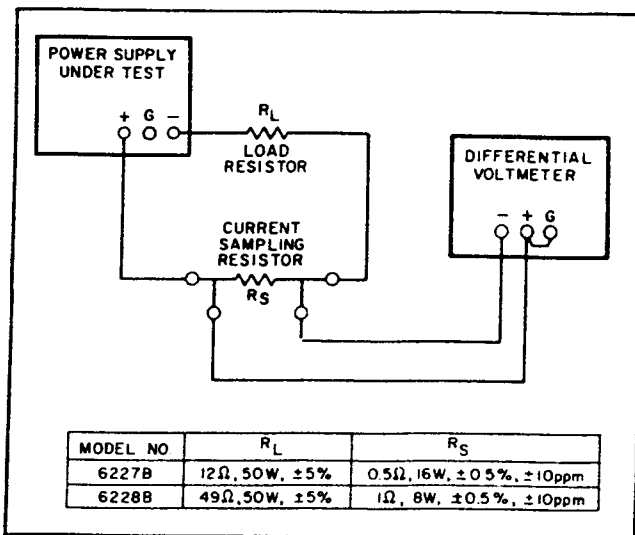

Figure 5-11. Constant Current Load Regulation Test Setup
- Connect test setup shown in Figure 5-11.
follows: Connect the test setup shown in Figure 5-11. Connect variable auto transformer between power source and power supply power